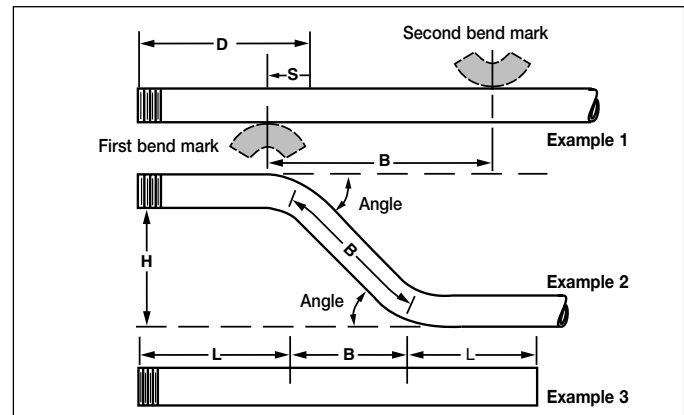

Figure 7
3. Mark off second bend measurement (**B**) on pipe as illustrated (Figure 7, Example 1).